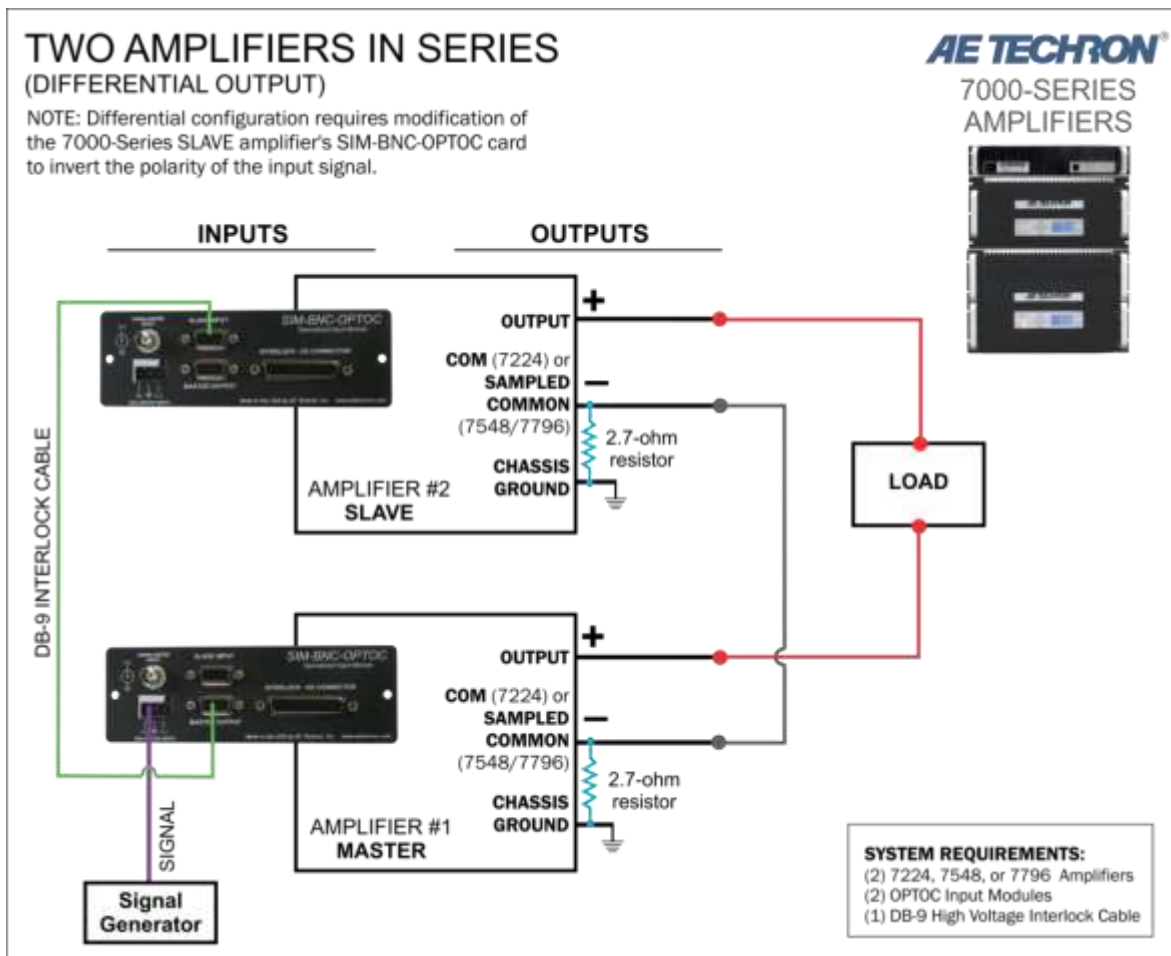

Figure 3.11 – Two Amplifiers in Series – Differential Configuration
5. Check the completed system diagram in **Figure 3.11** to verify proper system setup.